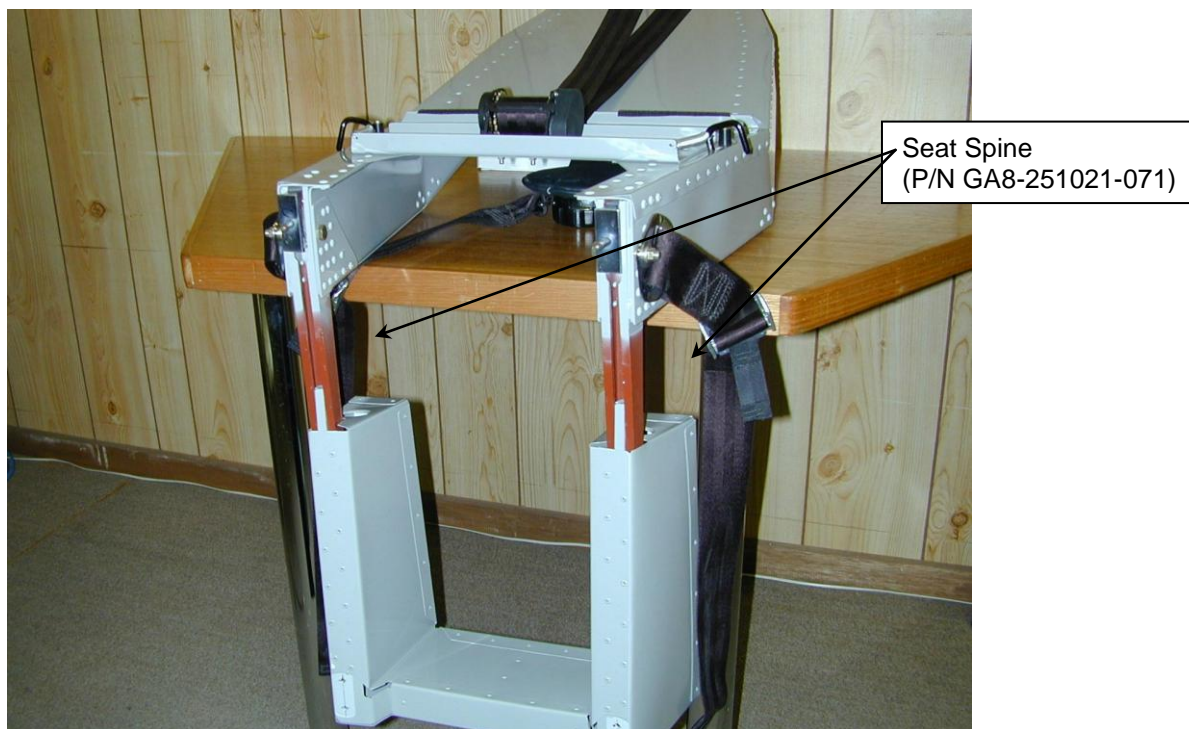

Figure 1. Seat positioned for inspection
2. Unscrew the forward seat feet (P/N GA8-251021-075) and slide the seat base (P/N GA8-251011-025) forward as far as possible. The base should move forward about 4 inches and the steel spines (P/N GA8-251021-071) will be visible, see figure 1. It is only necessary to inspect for notches in the aft visible portion of the spine.